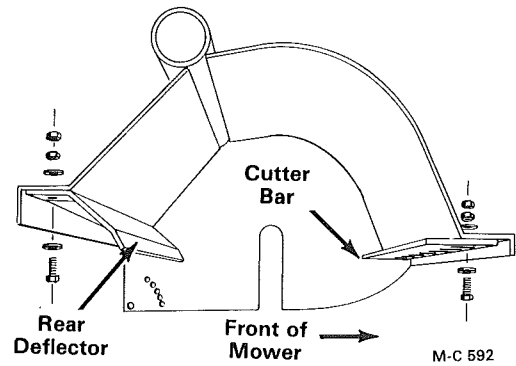

Figure 7
1. Bolt the rear deflector to the mower body with  $\frac{1}{2}$ -13 x  $1\frac{3}{4}$ " (Grade 5) hex-head capscrews, flatwashers and hex nuts. The heads of the capscrews go to the inside, see Figure 7.